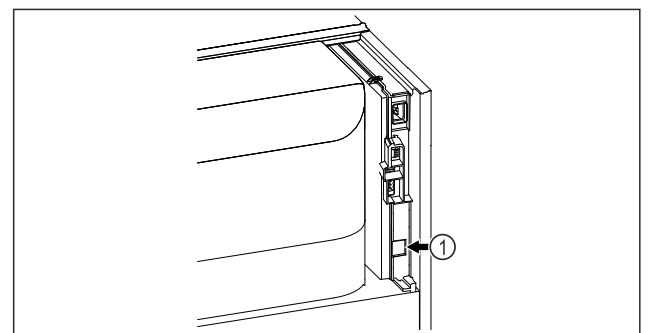

Fig. 183
- SmartModule Fig. 183 (1) is in use.